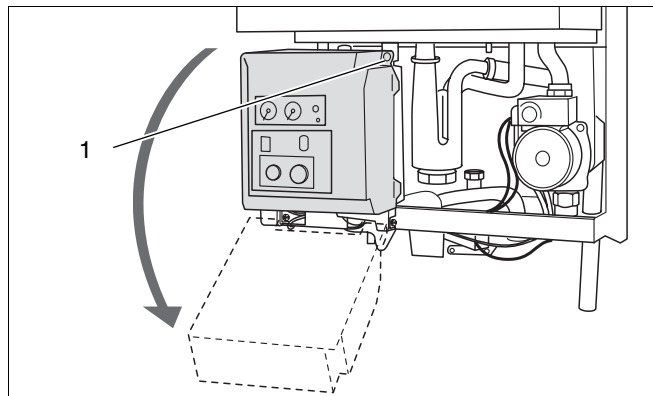

Fig. 18 Swivel the housing of the burner-control unit downwards
- Loosen crosshead screw (fig. 18, item 1) on burner-control unit (UBA).